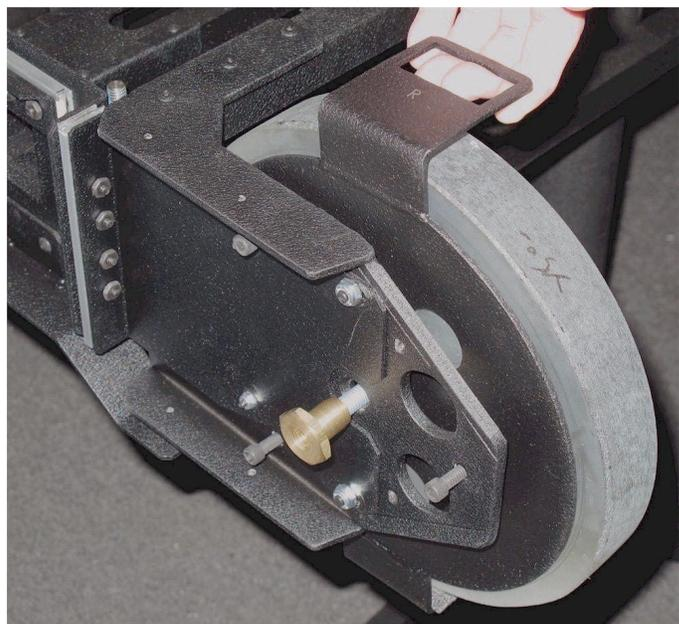

Figure 26
6. Thread the brass centering nut onto the stud about 3 to 4 turns (Figure 26).